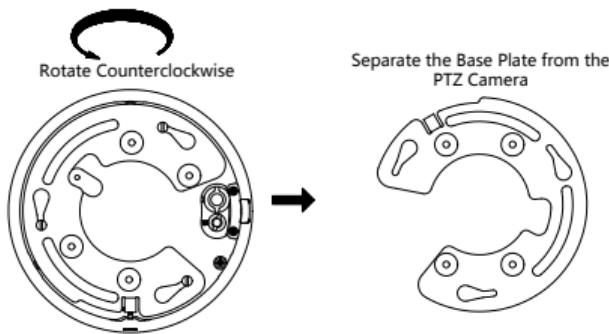

Figure 2-28 Separate the Base Plate from the PTZ camera
1. Rotate the base plate counterclockwise to separate it from the PTZ camera, as shown in Figure 2-28.